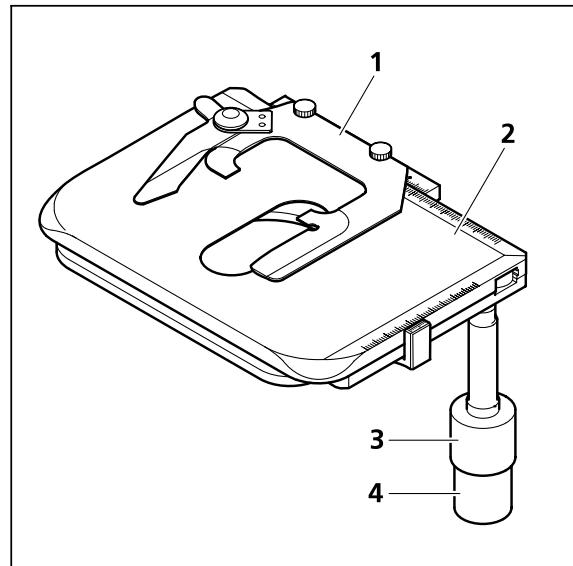

Fig. 4-34 Mechanical stage with object holder
- Mechanical stage (Fig. 4-34/2) with object holder (Fig. 4-34/1) for holding, positioning and fixating the samples.
- Gear knobs for X (Fig. 4-34/3) and Y adjustment (Fig. 4-34/4).